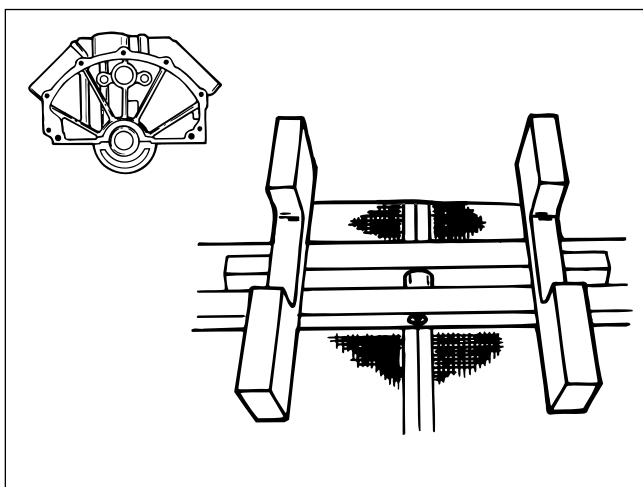

FIGURE 3-12, Position Riser Blocks
- If engine block's main bearing centerline is in line with pan rails, position riser so that it is in a vertical position (see Figure 3-12). large notch in center will provide clearance for main bearing housings. If pan rails are below centerline, position risers so they are in a flat configuration.